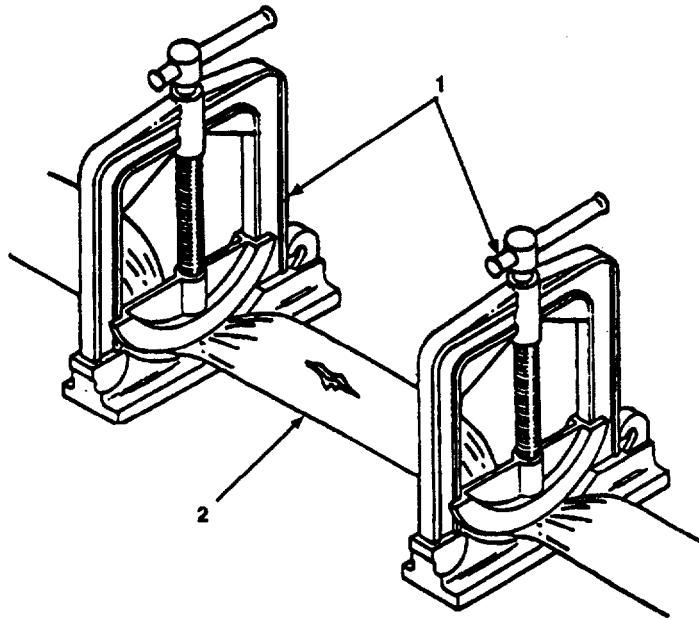
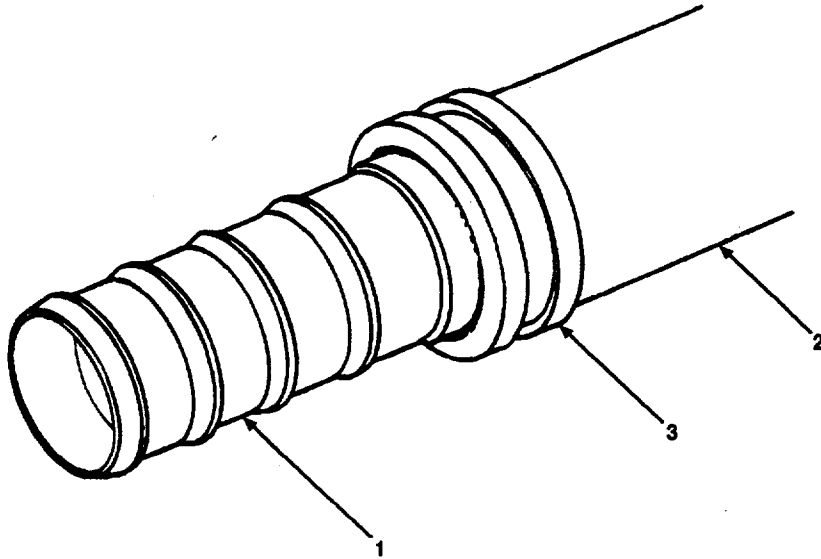

Figure 3-1. Hose Clamp Installation.
Figure 3-12. Double-Ended Adapter Installation.
- a. Install hose clamps (Figure 3-1, 1) 3 feet up-line and downline from hose section (2) to be removed.
- y. Release hose clamps (Figure 3-1, 1) and inspect repaired section for leaks.
- b. Insert one end of double-ended adapter (Figure 3-12, 1) into hose end (2), until shoulder (3) is flush hose end (2).
- d. Refer to paragraph 3.4.1.1 and perform steps a through g to install hose (2) on other end of double-ended adapter (1).
- f. Release hose clamps (Figure 3-1, 1) and inspect repaired section for leaks.